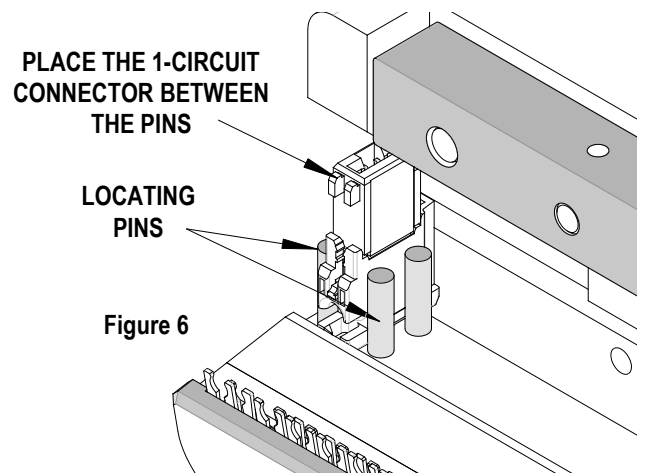

Figure 6
7. Note: for the 1-circuit connector, position the connector between the pins on the left side of the tool. See Figure 6.